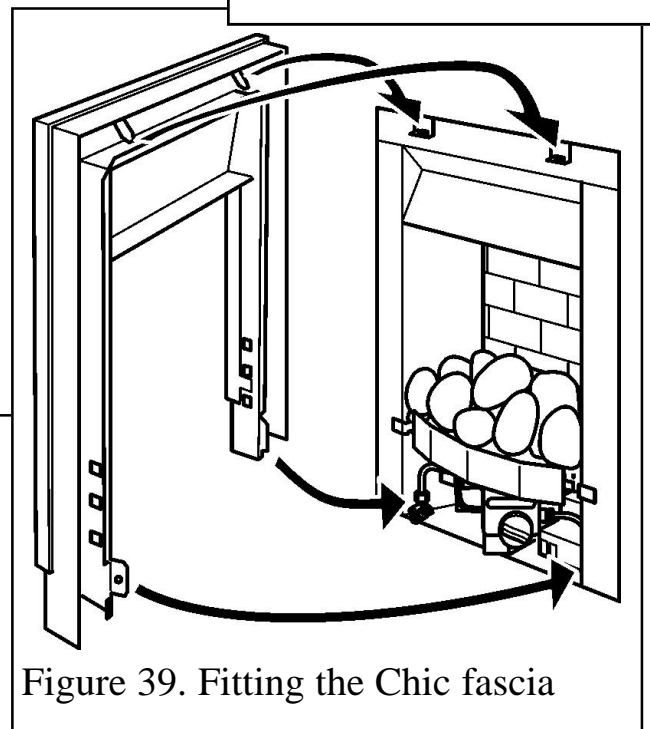

Figure 39. Fitting the Chic fascia
3. Fit the fascia to the appliance by locating the top to the upper hanging brackets (See figure 39), then attaching it to the body of the appliance using the two screws supplied (See figure 40).